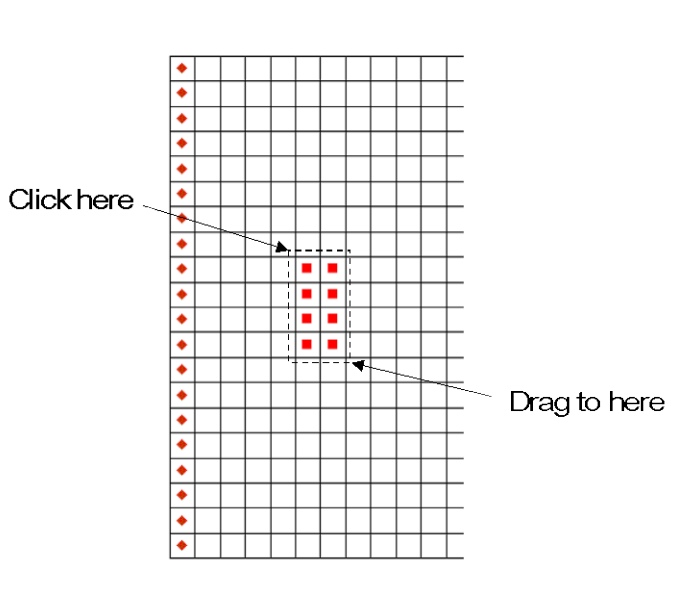

Figure 3. Selecting the cells defining the plume.
4. Drag a rectangle to select a 4X2 rectangular region of cells as shown in Figure 3. The currently selected cell represents the cell in the upper left corner of the grid of cells.